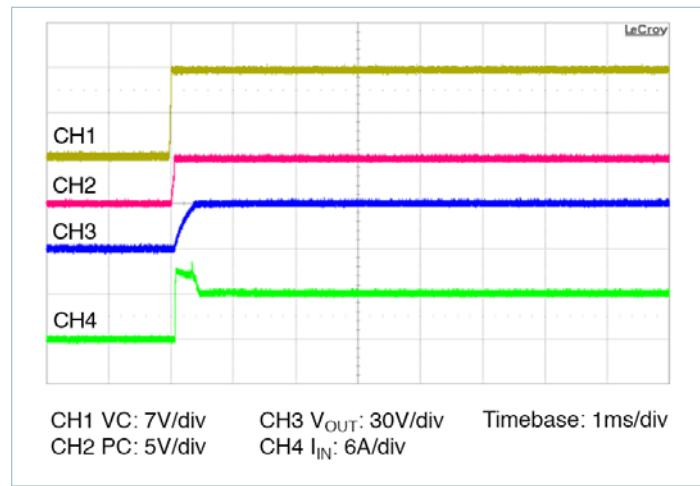

Figure 14 — Start up from application of V_C :
- **Stand-alone operation (VC applied after V_{IN}):** In this case the VTM output will begin to rise upon the application of the VC voltage (See Figure 14). The Adaptive Soft-Start Circuit may vary the output rate of rise in order to limit the inrush current to its maximum level. When starting into high capacitance or a short, the output current will be limited for a maximum of $1200\mu A$. After this period, the Adaptive Soft-Start Circuit will time out and the VTM module may shut down. No restart will be attempted until VC is re-applied or PC is toggled. The maximum output capacitance is limited to $100\mu F$ in this mode of operation to ensure a successful start.